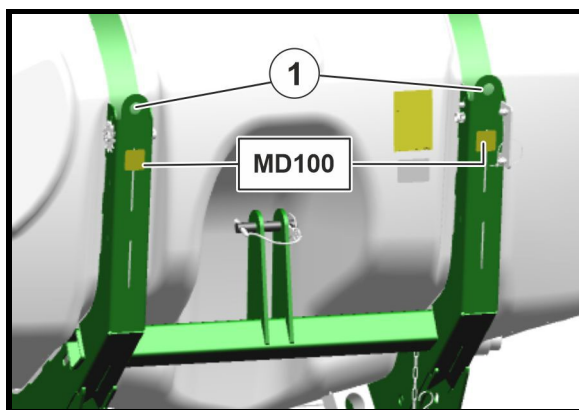

Fig. 4
- One attachment point in back (Fig. 4/1),